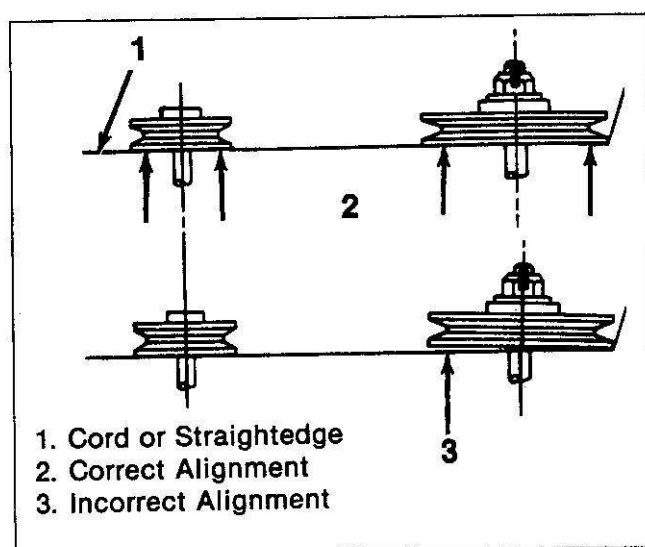

Figure 8. Pulley Alignment
3. Pulley alignment (figure 8).